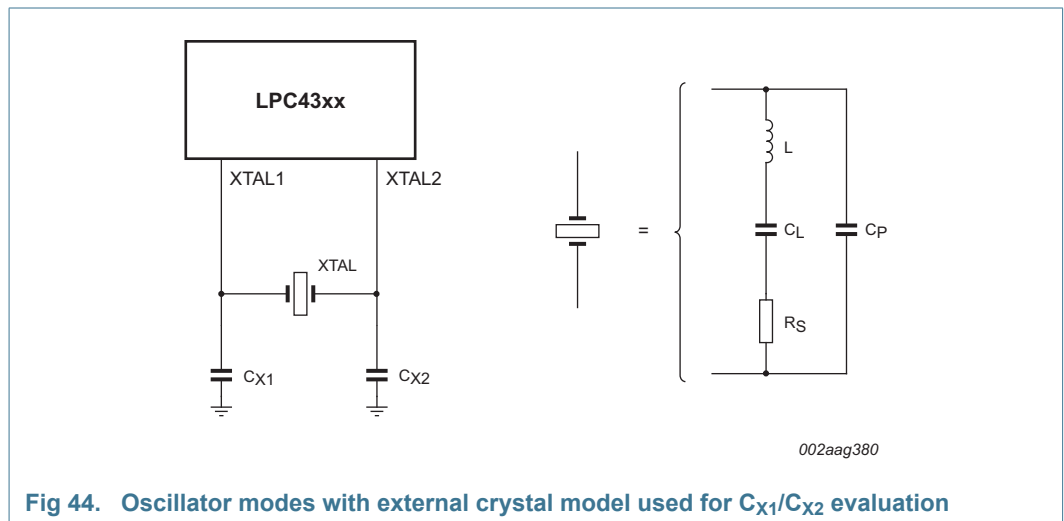

Fig 44. Oscillator modes with external crystal model used for C_{X1}/C_{X2} evaluation
- External components and models used in oscillation mode are shown in Figure 44, and in Table 43 and Table 44. Since the feedback resistance is integrated on chip, only a crystal and the capacitances C_{X1} and C_{X2} need to be connected externally in case of fundamental mode oscillation (L, CL and RS represent the fundamental frequency). Capacitance C_P in Figure 44 represents the parallel package capacitance and must not be larger than 7 pF. Parameters FC, CL, RS and CP are supplied by the crystal manufacturer.